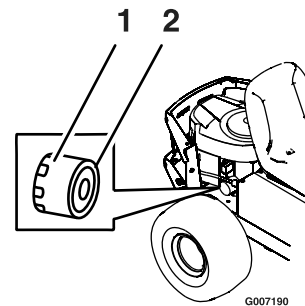

Figure 34
8. Remove the old filter and wipe off the mounting pad (Figure 34).